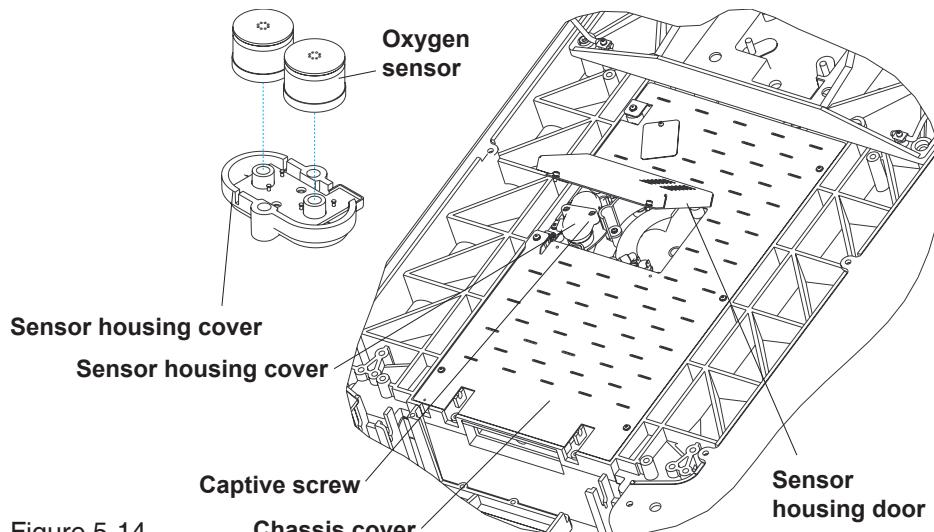

Figure 5-14
5.8.1 Installing oxygen sensors (Figure 5-14)